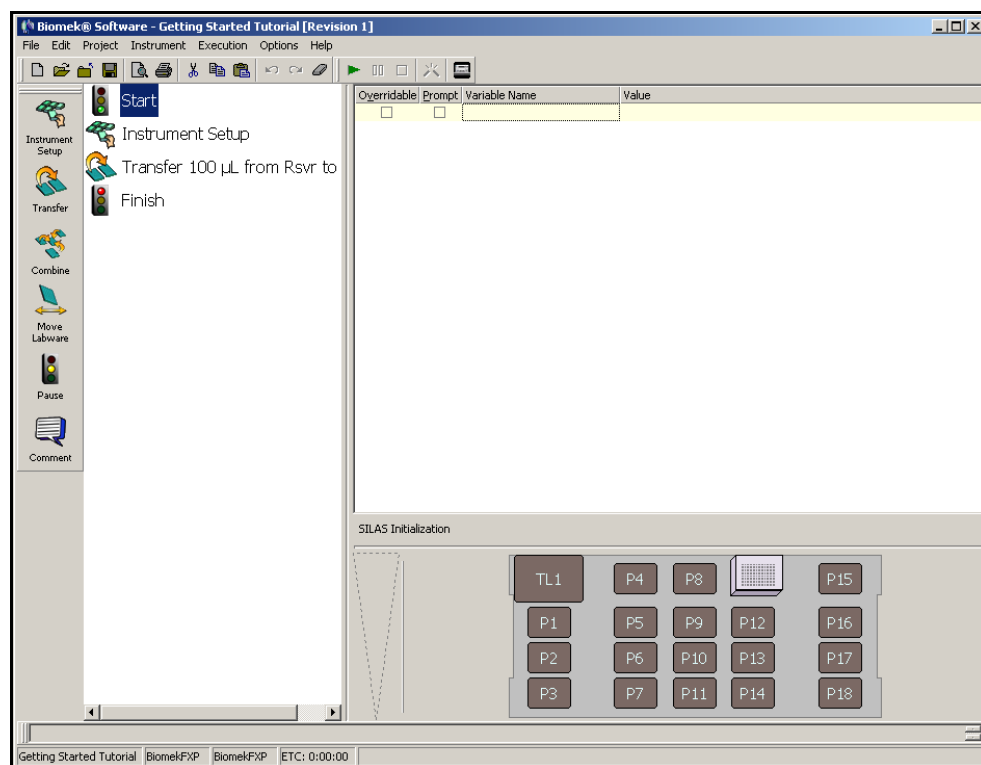

Figure 1-17. Method name has changed
3. Choose **OK**. Now notice how the method name in the Biomek main editor has changed to **Getting Started Tutorial [Revision 1]** (Figure 1-17).